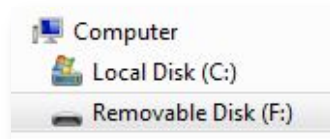

Figure 3 – New Device Appears in Windows Explorer
- Once the Mark 1 is connected to your computer Windows will try to install the appropriate device driver. This should succeed without any issues. When it does, you will see a new Removable Disk in Windows Explorer as shown in Figure 3.